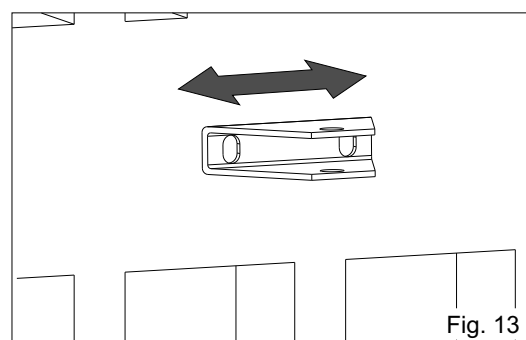

Fig. 13
- Before tightening the screws move the front bracket to the right or to the left for a good positioning of the arm on the gate (Fig.13)